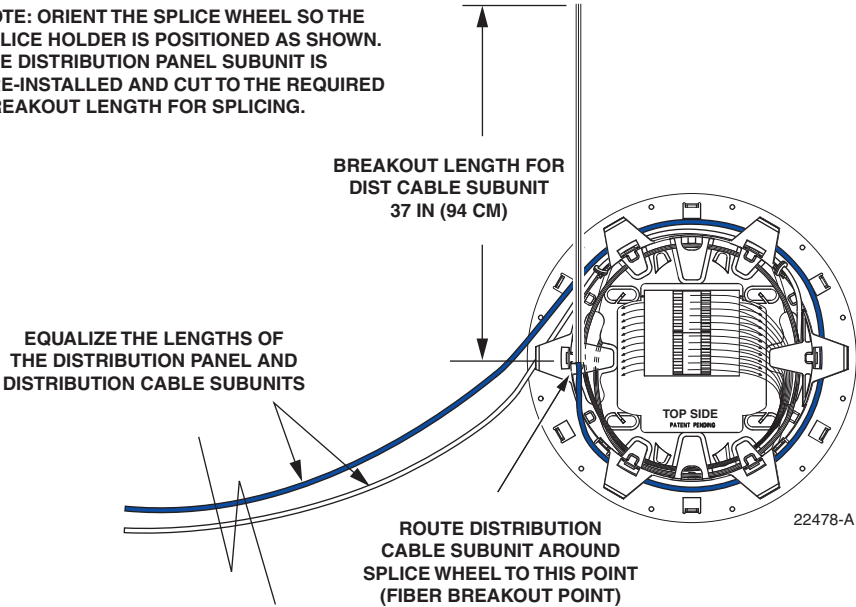

Figure 36. Equalize the Distribution Panel and Distribution Cable Subunit Lengths
7. Starting at the common tie point below the splice wheel, route the distribution cable subunit to the splice wheel. Make sure the distribution cable subunit and distribution panel subunit are same length as shown in Figure 36.
8. Coil the distribution subunit once around the splice wheel and then mark the fiber breakout point (see Figure 36) on the outside of the subunit protective jacket.